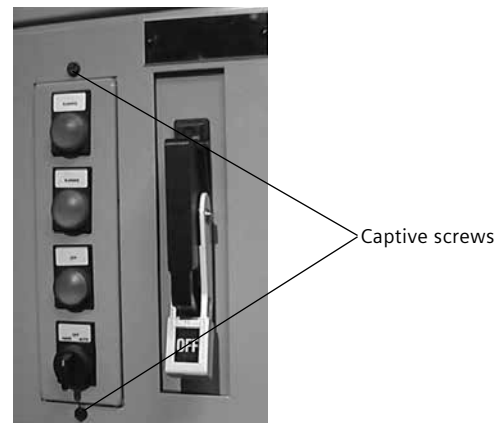

Figure 48
7. Pilot devices are mounted in a pilot device panel attaches to the unit door with two captive screws (Figure 48). To remove the pilot device panel from the unit door, loosen the bottom screw a couple of turns, then loosen the top screw to release the top of the pilot device panel. Tilt the top of the pilot device panel away from the back of the unit door and lift the pilot device panel off of the unit door. The top mounting screw is captive to the unit door while the bottom mounting screw is captive to the pilot device panel.